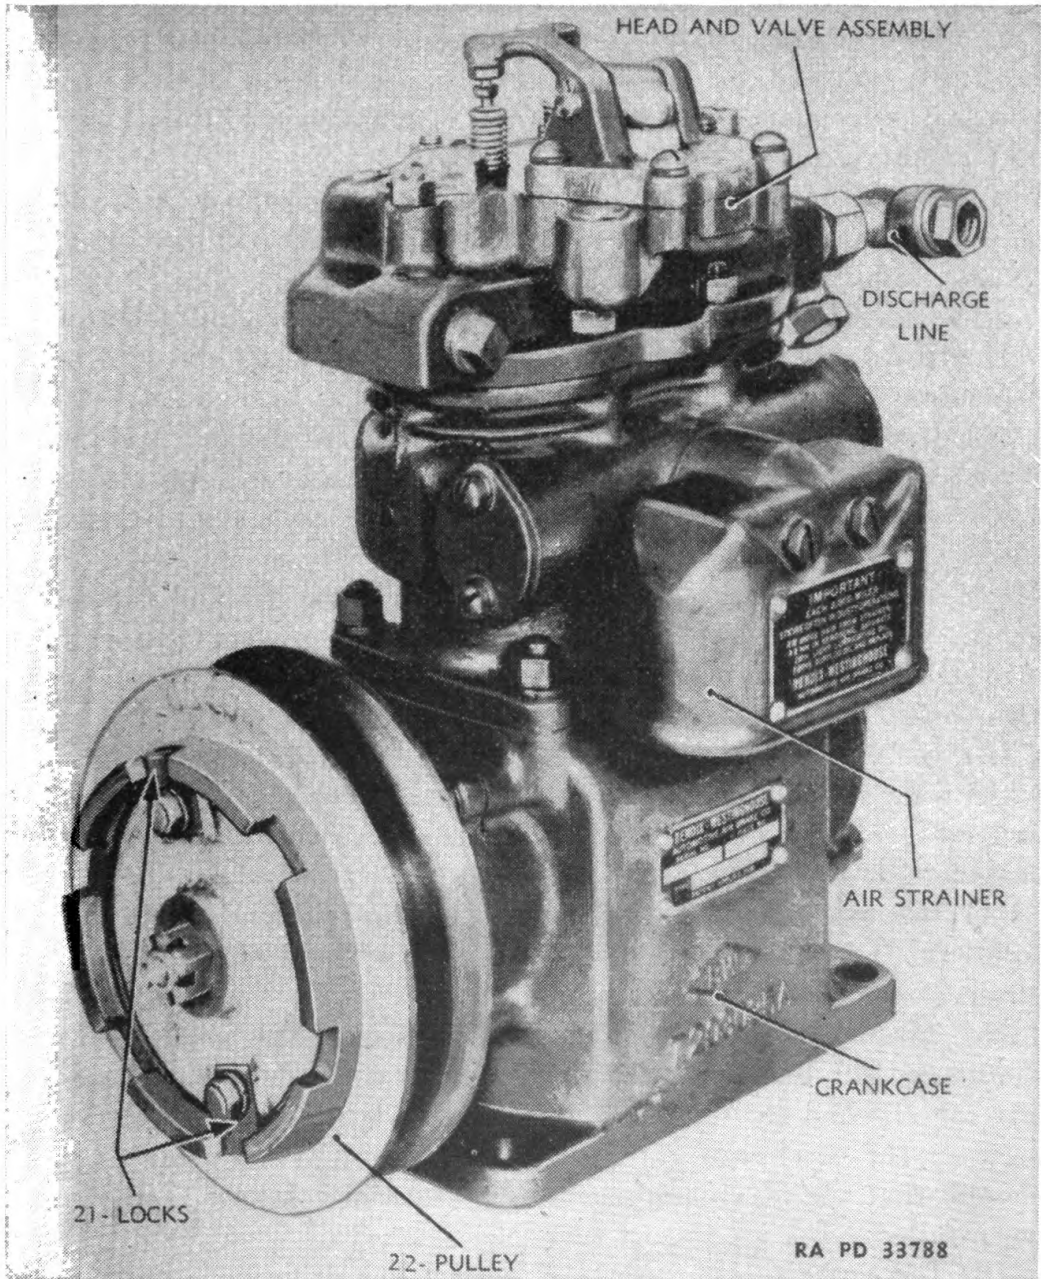
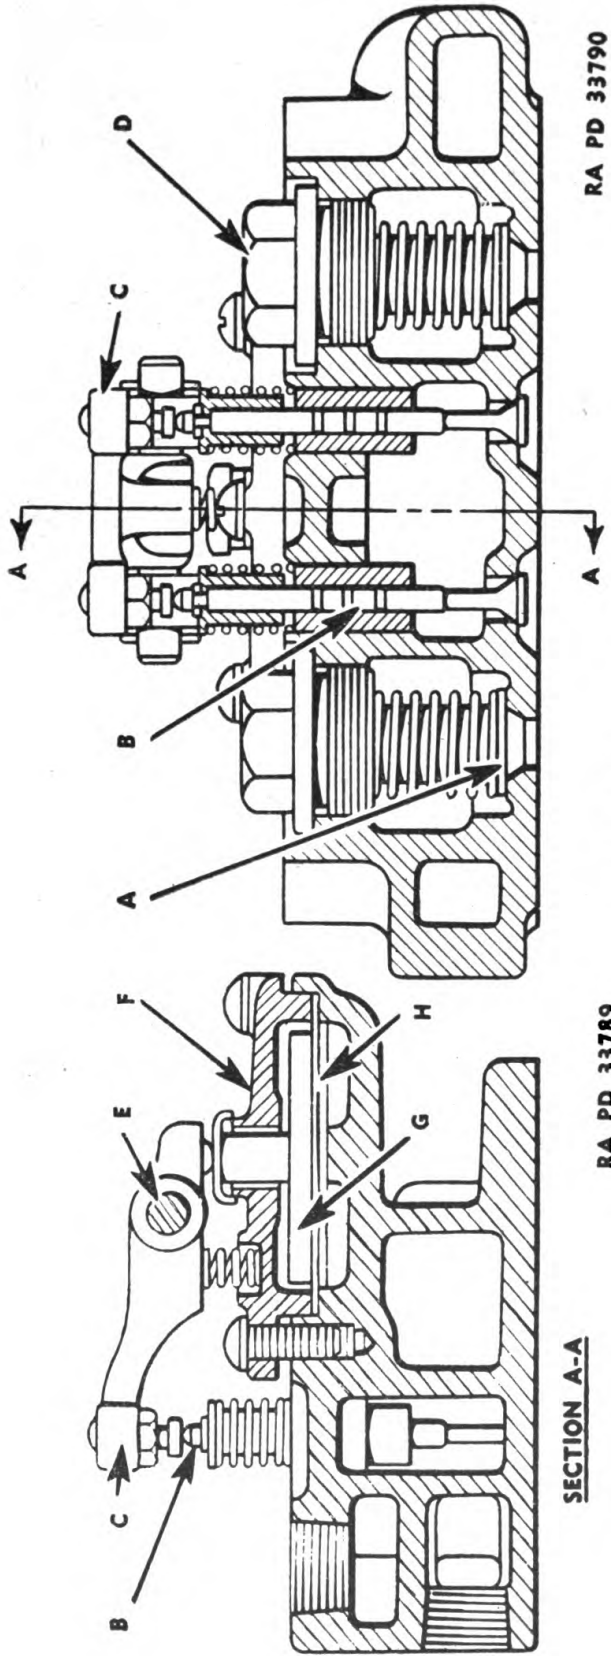

FIGURE 72.—Air compressor.
FIGURE 73.—Head and valve assembly.
65. Maintenance.—Inefficiency of the air compressor (fig. 72) is usually due to defective unloader valves (fig. 73), discharge valves, worn rings or cylinders, or carbon accumulations. Periodic inspections should be made for the purpose of replacing parts that are unserviceable as the result of wear and to remove carbon accumula-
72. Belt adjustment.—*a.* The compressor has a pulley with an adjustable outer rim (22) (fig. 72). The V-belt should be put in place and the outer rim adjusted until a satisfactory belt tension is obtained. The belt should not be too tight, as this will place excessive load on the shaft bearings; nor should the adjustment be too loose, as it will cause the belt to slip.
b. After the desired belt tension has been obtained, place the two locks (21) in place in the slots provided in the outer rim and pulley hub. Fasten in place with capscrews.